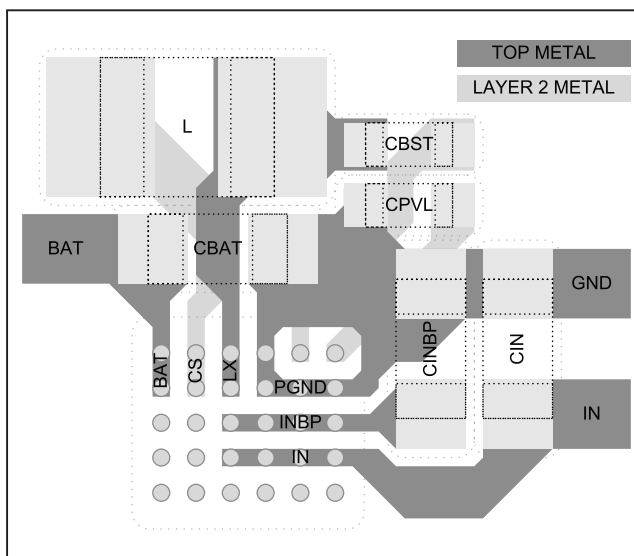
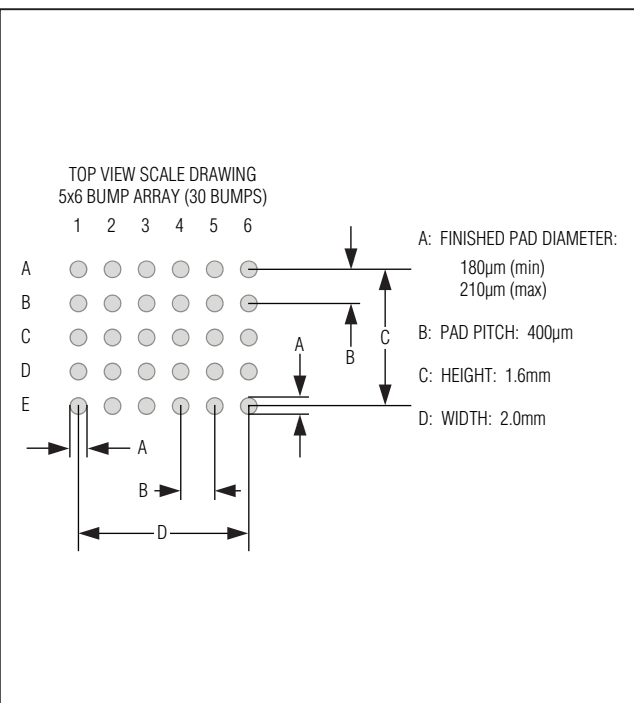
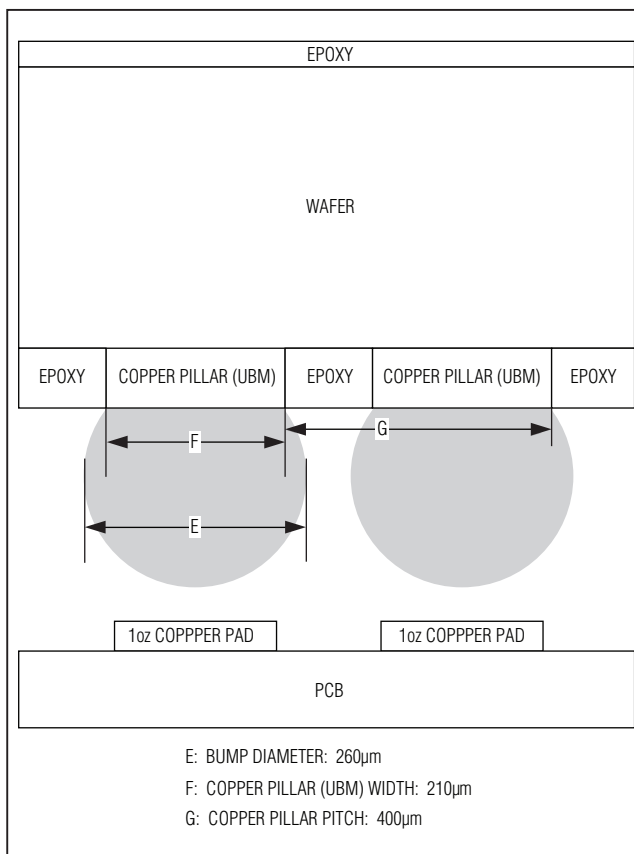

Figure 14. Power PCB Layout Example
Figure 15. Recommended Land Pattern
Figure 16. Bump Cross Section and Copper Pillar Detail
Figure 15 shows the recommended land pattern for the MAX8900_. Figure 16 shows the cross section of the MAX8900_'s bump with detail of the under-bump metal (UBM). The diameter of each pad in the land pattern is close to the diameter of the UBM. This land pattern to UBM relationship is important to get the proper reflow of each solder bump.
Careful printed circuit layout is important for minimizing ground bounce and noise. Figure 14 is an example layout of the critical power components for the MAX8900_. The arrangement of the components that are not shown in Figure 14 is less critical. Refer to the MAX8900 Evaluation Kit for a complete PCB layout example. Use the following list of guidelines in addition to Application Note 1891: *Wafer-Level Packaging (WLP) and Its Applications* (www.maxim-ic.com/ucsp) to layout the MAX8900_ PCB.
- 5) In Figure 14, the CS node is connected to the second layer of metal with vias. Use low-impedance vias that are capable of handling 1.5A of current. Also, keep the routing inductor current path on layer 2 just underneath the inductor current path on layer 1 to minimize impedance.
- 6) Both C_{BST} and C_{PVL} deliver current pulses for the MAX8900's MOSFET drivers. These components should be placed as shown in Figure 14 to minimize parasitic impedance.
In Figure 14, many of the top layer bump pads are connected together in top metal. When connecting bumps together with top layer metal, the solder mask must define the pads from $180\mu\text{m}$ to $210\mu\text{m}$ as shown in Figure 15. When using solder mask defined pads, please double check the solder mask openings on the PCB Gerber files before ordering boards as some PCB layout tools have configuration settings that automatically oversize solder mask openings. Also, explain in the PCB fabrication notes that the solder mask is not to be modified. Occasionally, optimization tools are used at the PCB fabrication house that modify solder masks. Layouts that do not use solder mask defined pads are possible. When using these layouts, adhere to the recommendations A through G above.